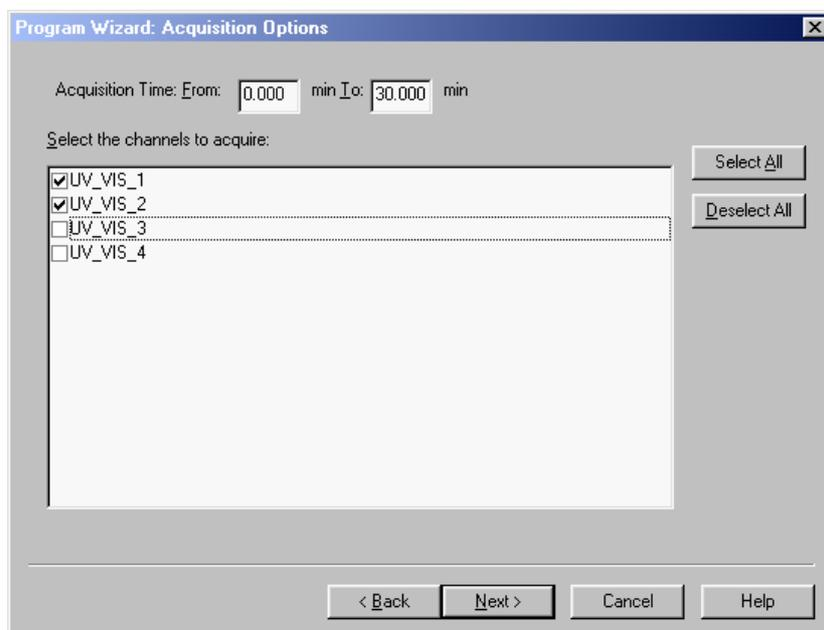

FIGURE 2-33 The Acquisition Option Box
- j) Select the number of UV channels used and the data acquisition time in the *Acquisition Options* box (FIGURE 2-33).